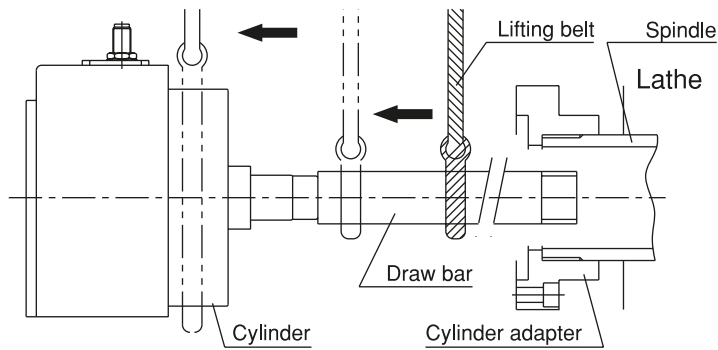

Fig. 15
- When removing/installing the cylinder, use a lifting belt and perform as follows. (Fig.15)
- (1) To lift up the cylinder, engage a lifting belt with the draw-bar and lift up the cylinder while supporting it.
- (2) Insert the draw-bar into the spindle.
- (3) When a lifting belt comes close to the spindle, shift the lifting belt toward the cylinder.
- (4) When the draw-pipe has entered the spindle sufficiently, re-engage a lifting belt with the cylinder body and fit the cylinder closely to the spindle and then install the cylinder with the cylinder mounting bolts.